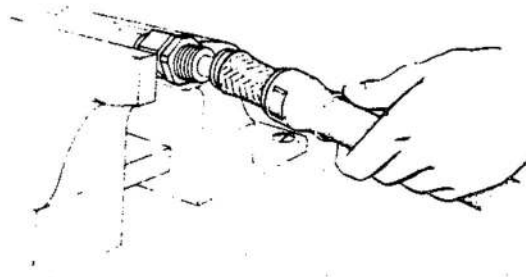

Fig.4 Removing the sleeve
(2) Remove the nipple sleeve (see fig. 4). Grip the previously removed nipple assembly in a vice and place the hose end and sleeve over the nipple taper. Using the nipple taper as a lever gently pry the sleeve from the hose.
(3) Slide the socket from the hose.